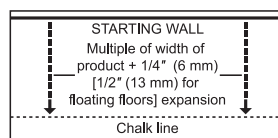

Figure 5
• In at least two places, at least 18" (46 cm) from the corner, measure out equal distance from the starting wall (Figure 5) and snap a chalk line. The measurement must be the sum of the width of the flooring plus an additional 3/8" (9.5 mm) to allow for 1/4" (6 mm) expansion space and the width of the tongue. Allow 1/2" (13 mm) expansion when installing floating floors.